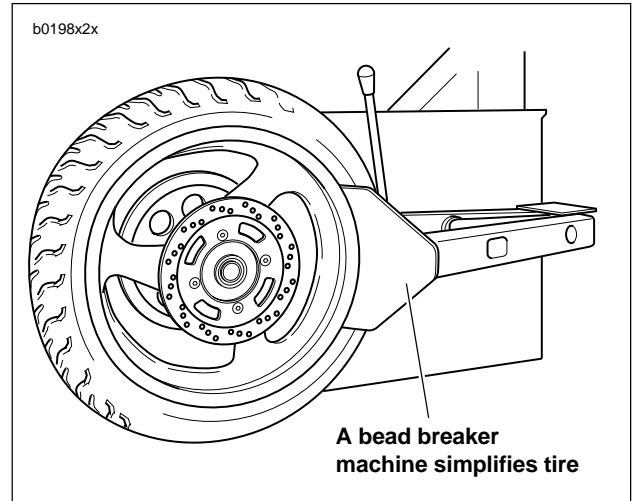

Figure 2-11. Loosening Beads from Rim Flange
3. See Figure 2-11. Loosen both tire beads from rim flange.